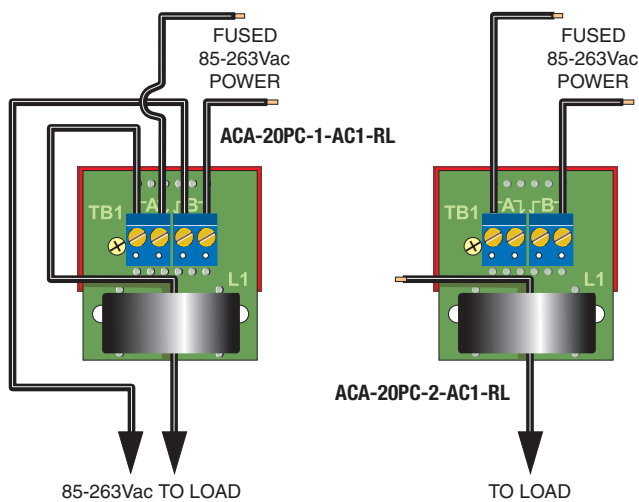

Figure 3. 2A and 20A, 85-264V AC-Powered Models With Auxilliary Load Connections
- ① The ACA-20PC-1-AC1-RL and ACA-20PC-2-AC1-RL have 4-position on-board terminal blocks. All other models have 2-position terminal blocks.
- ② Specified full-scale currents are those passing through the built-in CT's primary(load) circuit, over the frequency of 45-450Hz. The Overcurrent Rating is a continuous rating that applies to the measured ac load current. It does not apply to any circuitry external to the meter. Accuracy is guaranteed to the rated current.
- ③ For the ACA-20PC-2-AC1-RL, if the load is connected to the meter's on-board 4-position terminal block, the 20A full scale range requires 12AWG solid copper wire on all connections. If 14AWG solid copper wire is used, the current should be limited to 15A. See Figure 3.
- ④ All specified maximum power supply currents are steady-state values. AC-powered models can draw higher surges at initial turn-on.
- ⑤ Maximum reverse polarity protection on "DC1" models is –40Vdc.